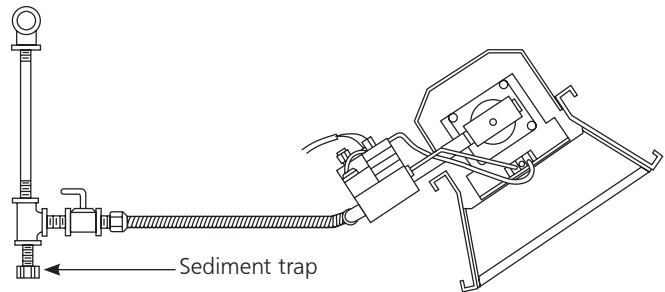

Figure 3. Typical Piping Installation
Provide adequate gas supply for rated input of each heater using American Standard Installation of gas piping and gas appliances in building. ANSI Z223.1a/NFPA 54 pamphlet, Table C-3 shows capacity of pipe of different diameters and lengths in cubic feet per hour natural gas with pressure drop of 0.3 inches, specific gravity of 0.60. For liquefied Petroleum Gas (LP) capacity refer to Figures 3. On threaded pipes use a pipe compound which is resistant to the action of all gases.
- A sediment trap meeting the typical requirements of Figure 3 shall be installed in the line to the gas valve.